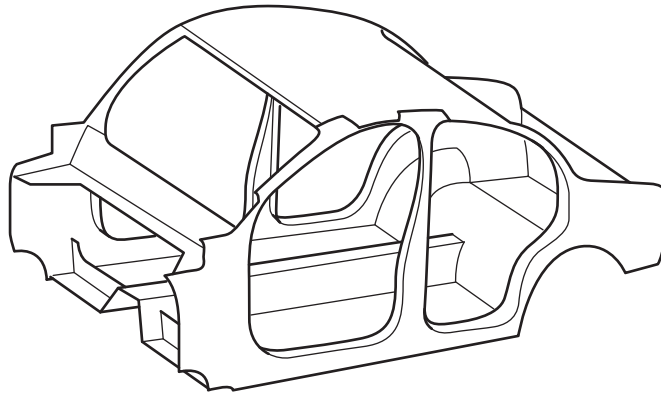

Fig. 8.1
- 8 Fig. 8.1 shows a car body shell made from carbon fibre reinforced plastic (CFRP).